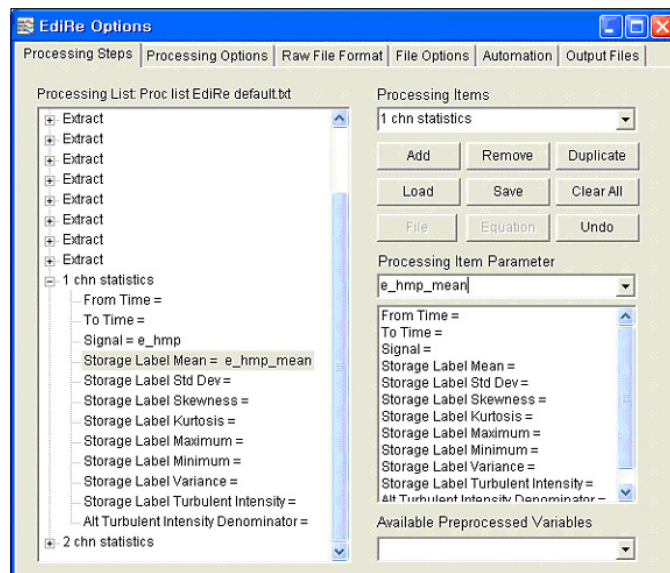

**Figure 9:** Data are measured and computed online by the datalogger and stored in the time series data file, `ts_data.dat`.
21. If you wish to compute fluxes, you can also type in the label for the computed flux and the appropriate flux coefficient. In this example, we are computing the sensible heat flux, using the sonic temperature,  $T_s$ , and vertical wind speed,  $U_z$ . The flux coefficient of sensible heat flux is computed from the temperature and vapor pressure data. These data are measured and computed online by the datalogger and stored in the time series data file, `ts_data.dat` (see Figure 9).